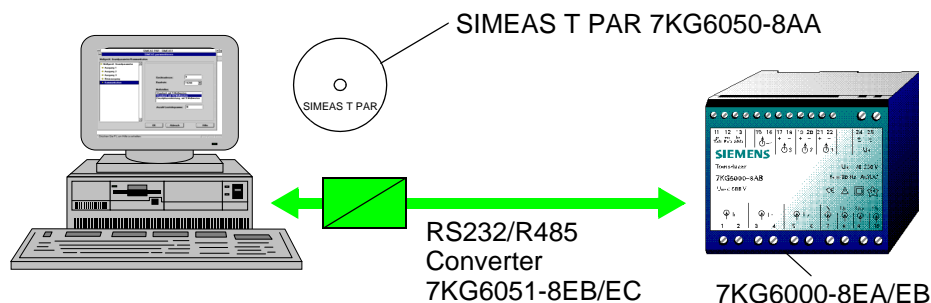

Figure 8-2 Configuration of Transducers with RS485 Interface 7KG6000-8EA/EB
- Connect the transducer as shown in Figure 8-2.